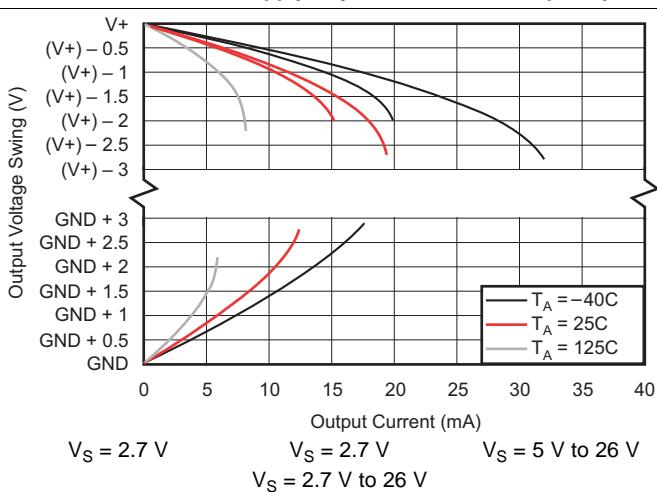

图 10. Output Voltage Swing vs Output Current
(1) RTI = referred-to-input.
(2) See Typical Characteristic curve, Output Voltage Swing vs Output Current (图 10).